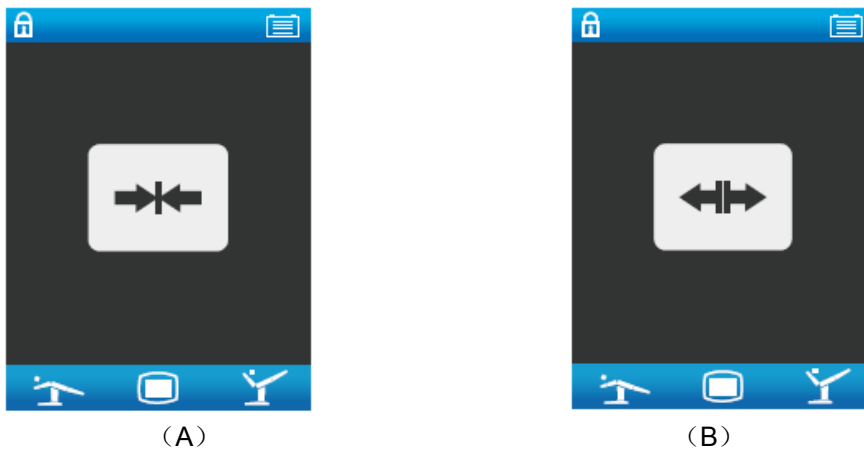

Figure 2-14 Module recognition
1. As Figure 2-14 shows, when the leg plate is connected, the icon (A) will be displayed.
2. As Figure 2-14 shows, when the leg plate is detached, the icon (B) will be displayed.